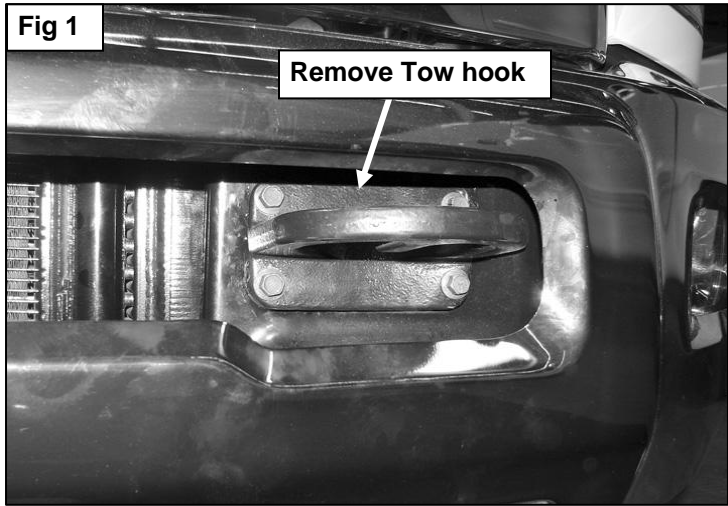

Fig 3 Assembly
- Select the Driver side 35-5TOW mounting brackets A & B, with the Driver side 35-5006 Bull bar bracket, place the bull bar brackets in between the 35-5TOW brackets A & B as seen below in **(Fig 3)**, with the brackets sandwiched together attach them to where the Factory tow hooks were installed using the (4) 10mm x 65mm Hex Bolts, (8) 10mm Flat Washers, (4) 10mm Lock Washers and (4) 10mm Hex Nuts, with the fasteners attached, Snug the hardware but do not tighten at this time. As seen in **(Fig 4)** Snug the hardware but do not tighten at this time. Repeat this step for passenger side mounting bracket installation.